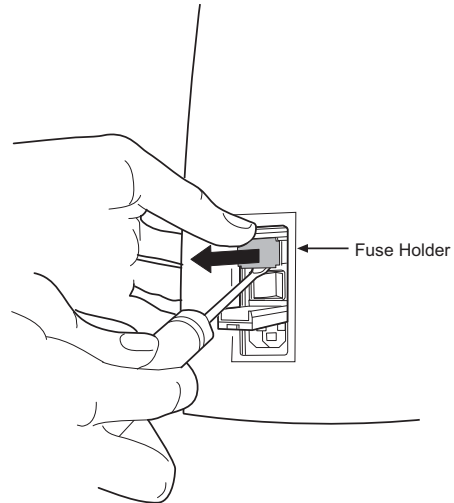

Figure 5-7 Remove the Fuse Holder
6. Insert the screwdriver under the fuse holder to pull it out. (Refer to Figure 5-7.)